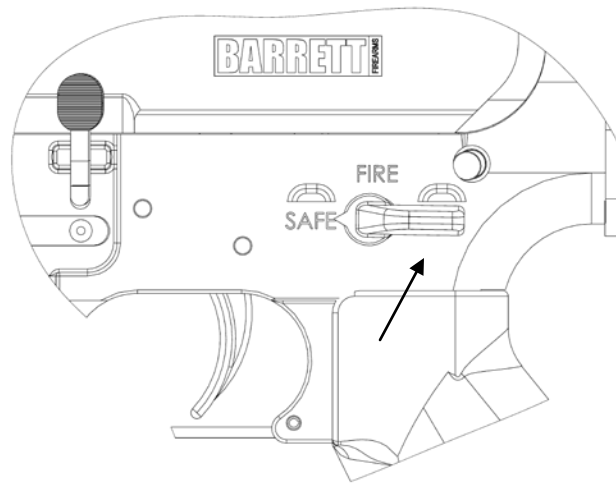

Figure 9
3. Place safety selector switch to SAFE position until ready to operate. (Figure 9).